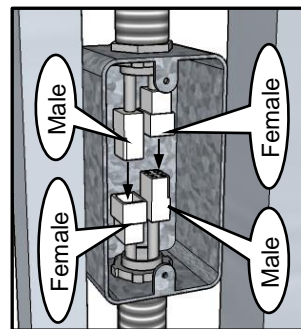
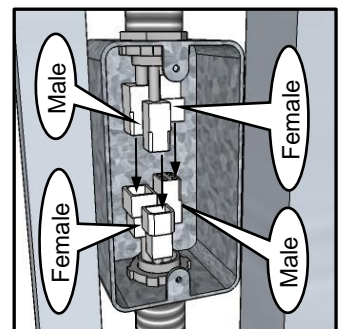

Figure 31
Figure 32
- 3** On 3-stop & 4-stop lifts, the wires dropping down will have male and female connectors as will the junction box. Make sure the male and female from above plug into the male and female from below. (for 3-stops see Figure 31) (for 4-stops see Figure 32)